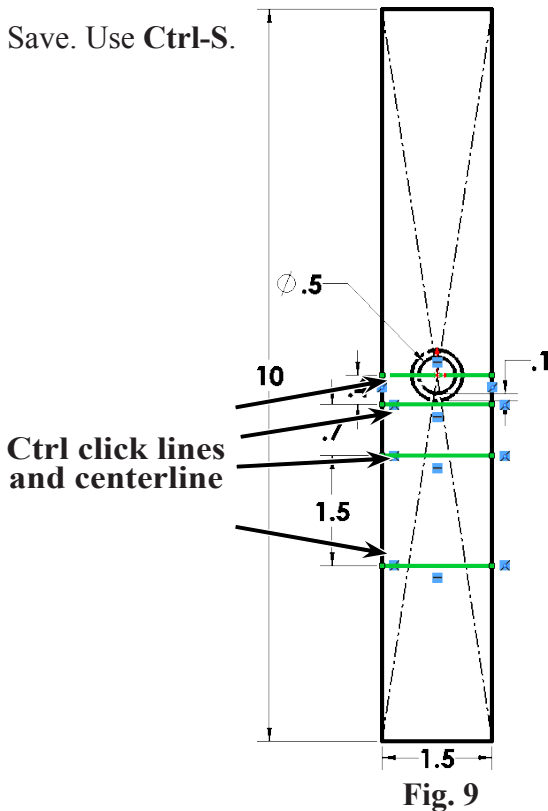

Fig. 9
Step 1. Ctrl click the 4 horizontal lines which will include the construction line, Fig. 9.